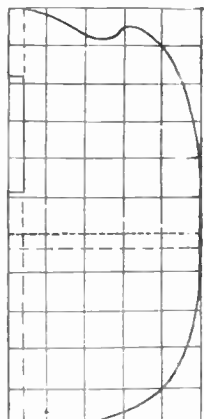

Fig. 3 End shape
The ends (A), Fig. 2, will be the first pieces to set out and cut. Two pieces of $\frac{3}{4}$ in. thick stuff measuring 11 ins. by 5 ins. will be wanted, and on one of the pieces a series of 1 in. squares must be drawn. The curved outline is put in through them, as in Fig. 3. It would be well to add on the piece to the dotted lines which indicate the position of